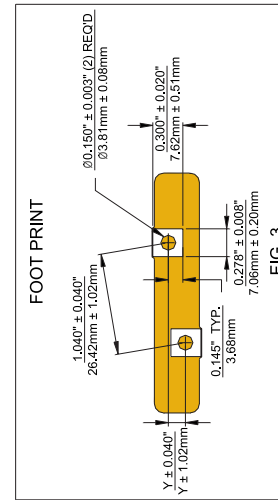

FIG. 3
* Footprint configuration converts to Fig. 3.